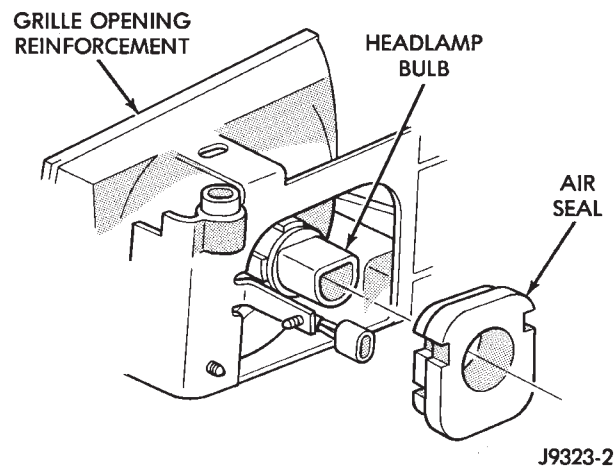

Fig. 9 GOR Air Seals
(21) Remove grille opening reinforcement.
(22) If necessary, remove air seals located at headlamp wiring inlets (Fig. 9).